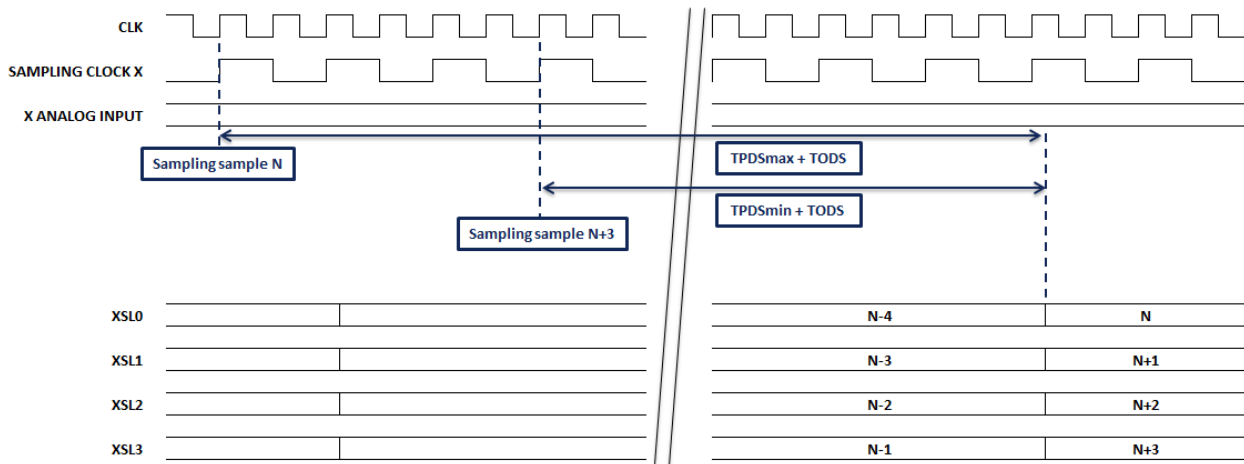

Figure 4: Timing diagram in serial ESistream
6. Refer to timing diagram in Figure 4
For Figure 4, the output data XSLN are encoded through ESistream (see section Serial ESistream for more information).